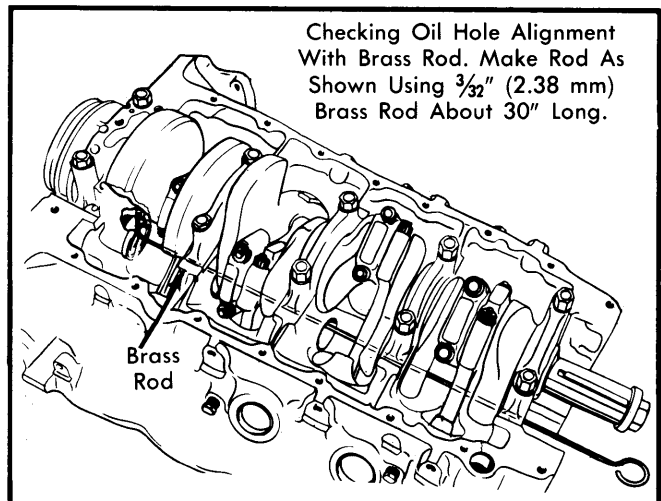

Fig. 10 Checking Oil Hole Alignment
**Installation** — To install camshaft bearings, reverse removal procedure while noting the following: To aid in aligning bearings with oil passages, place bearing in front bore with tapered edge toward block and align oil hole in bearing with center of oil slot in bore. Mark bearing. When installing bearing, mark will act as a guide. See Fig. 10.